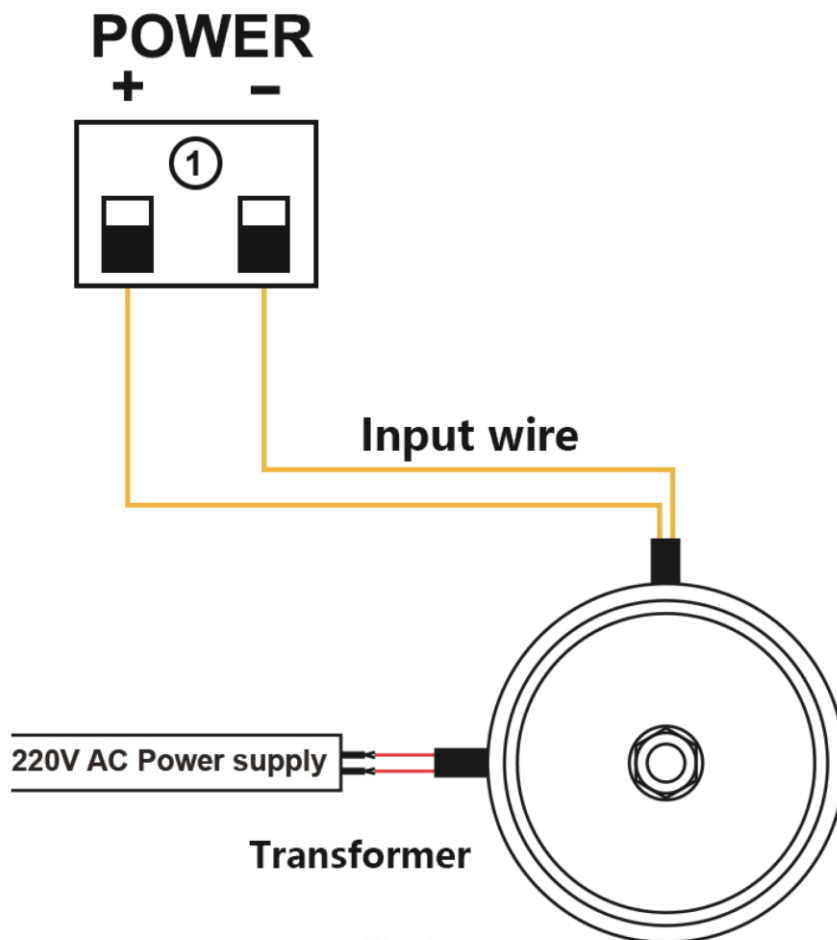

Fig 11
- 2.Gear rack length depend on gate length, each gear rack is 1 metre. Put one end of rack on the output gear of motor as a temporary support.Make the rack horizontal and mark the rack mounting holes (three holes) on the gate .(Fig 11)